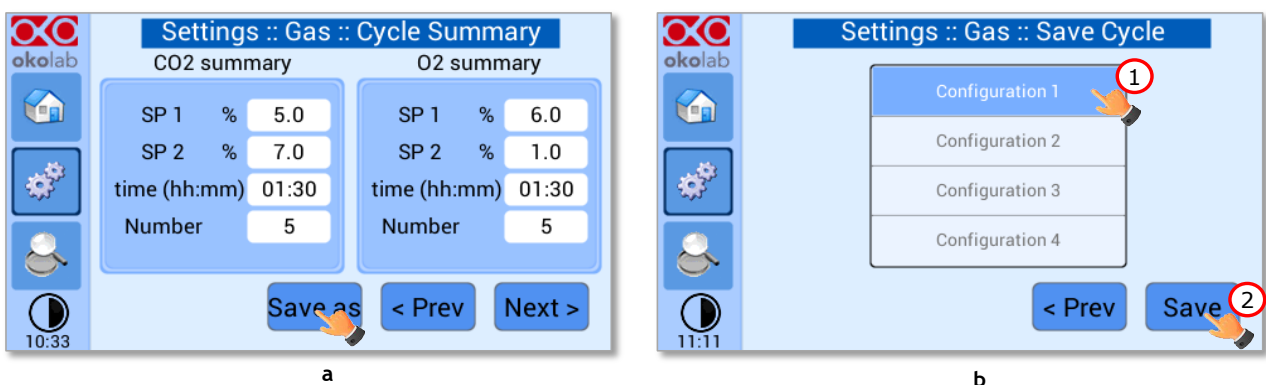

Figure 38. Cycle Summary and Configuration Saving (a - b).
4. Once you have adjusted the settings, the *Cycle Summary* page will be displayed (see Figure 38 a). Press *Save As* if you want to save the CO₂/O₂ Cycle program to be recalled for future experiments.